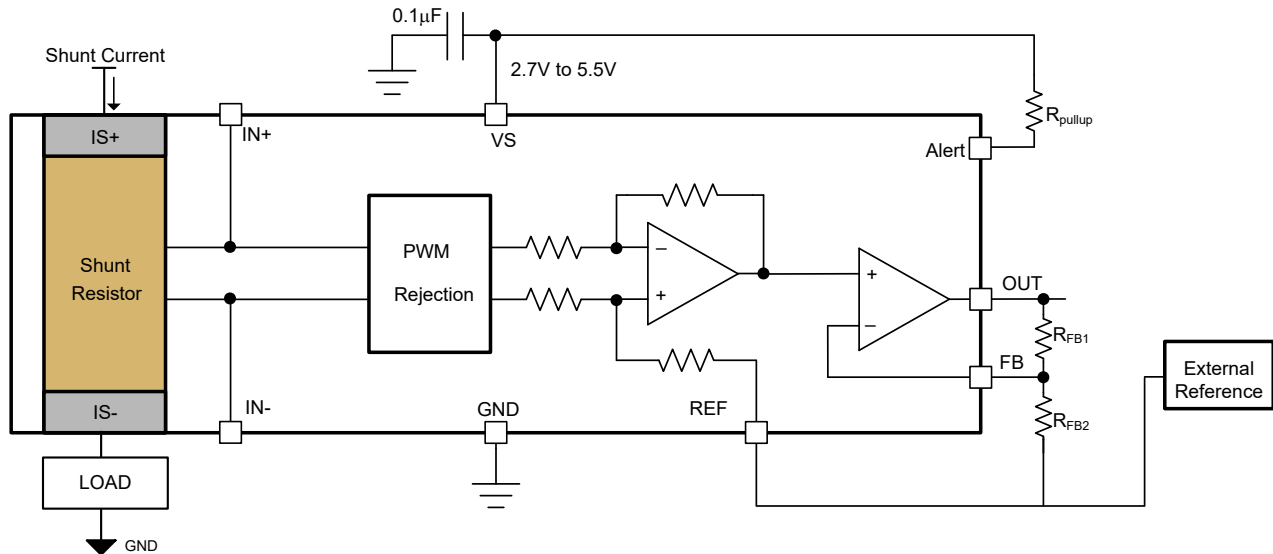

Figure 6-8. Adjustable Gain Setting With External Resistor Divider
The INA750x features adjustable gain with two external resistor network. The default gain is 40mV/A, and with added external adjustable gain resistor network, total gain (G) can range up to 800mV/A. Figure 6-8 shows two external resistors  $R_{FB1}$  and  $R_{FB2}$  configured for added external gain. Equation 2 can be used for calculating external adjustable gain and Equation 3 shows the total gain of the system with external adjustable gain. The REF pin and one end of resistor  $R_{FB2}$  is connected to external reference based on needed voltage at OUT pin as described in Adjusting the Output With the Reference Pin.